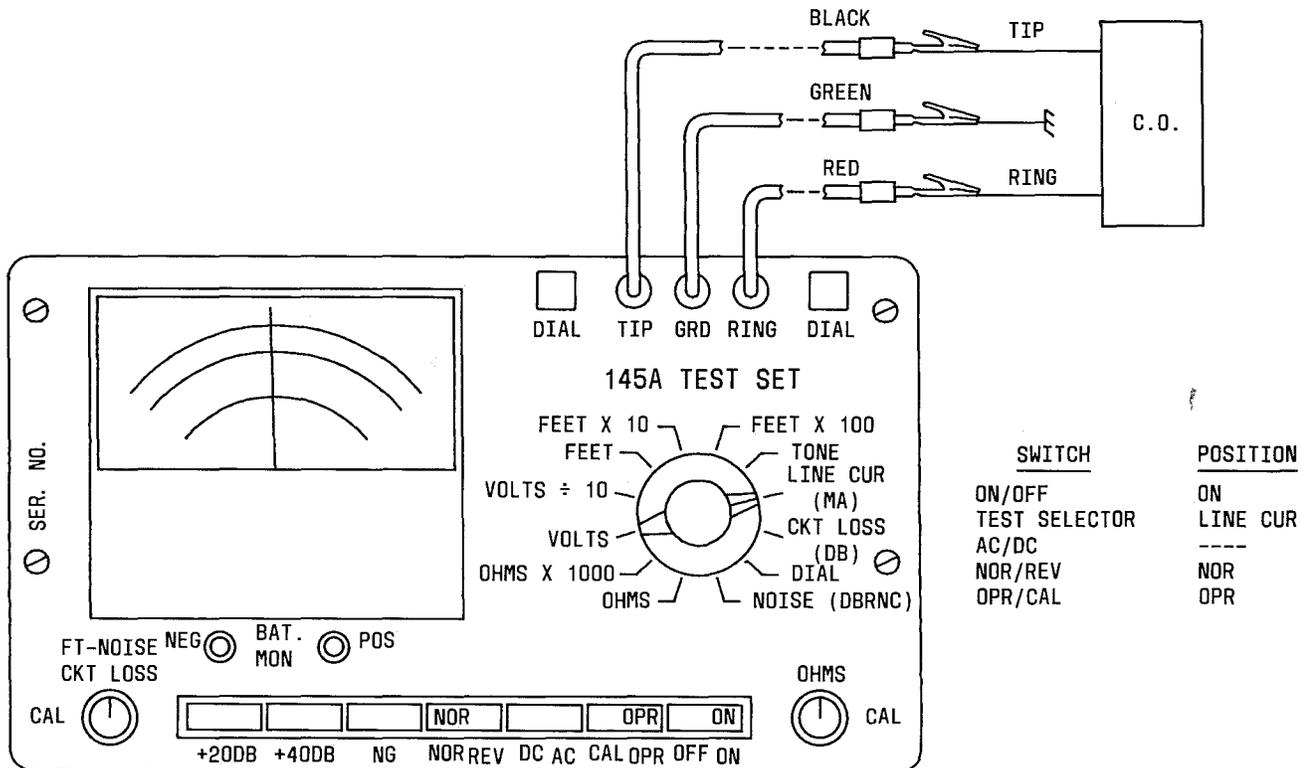

Fig. 11—Line Current Testing
4.07 Line Current Testing (Fig. 11): This test measures the amount of line current that is being received from the CO for operation of a station telephone set. The measurement should be made at the customer's premises. The following steps must be used when making this test: